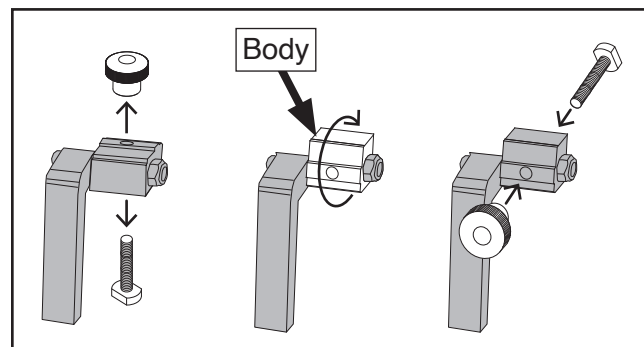

Figure 21. Configuring flip stop for front T-slot.
1. Remove flip stop knob and T-bolt, rotate flip stop body, then re-install knob and T-bolt (see **Figure 21**).